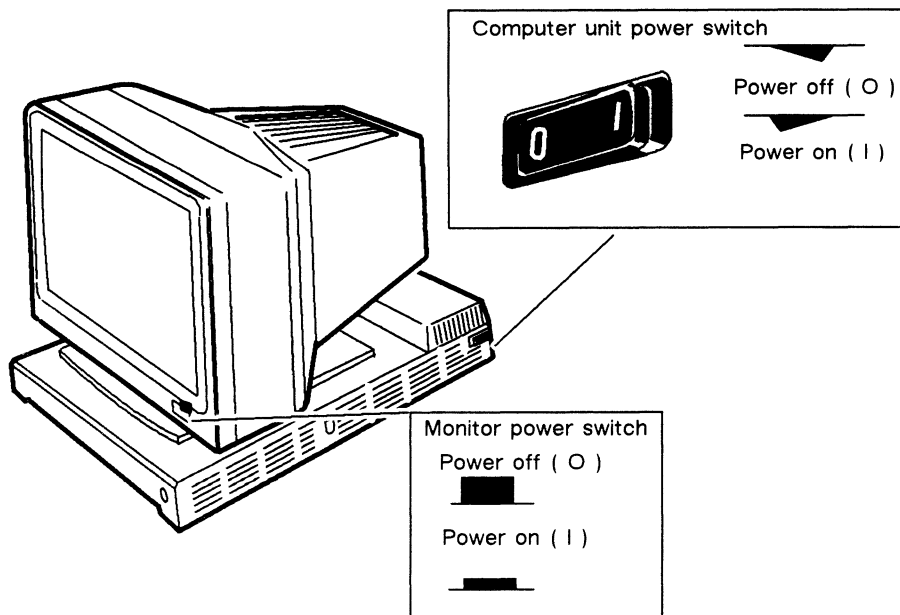

Figure 2-12 Power Switches for the Computer Unit and Monitor
2. Make sure that the power switches for the computer unit and monitor are off as shown in Figure 2-12.